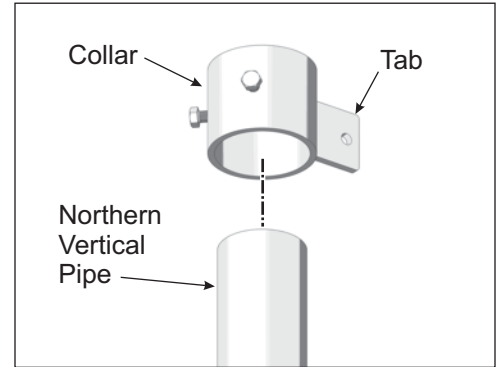

Figure 1-3: Typical Collar
- A. Slip the Collar over the top of the vertical pipe, slide it downward until it rests on the concrete footing. (See Figure 1-3)